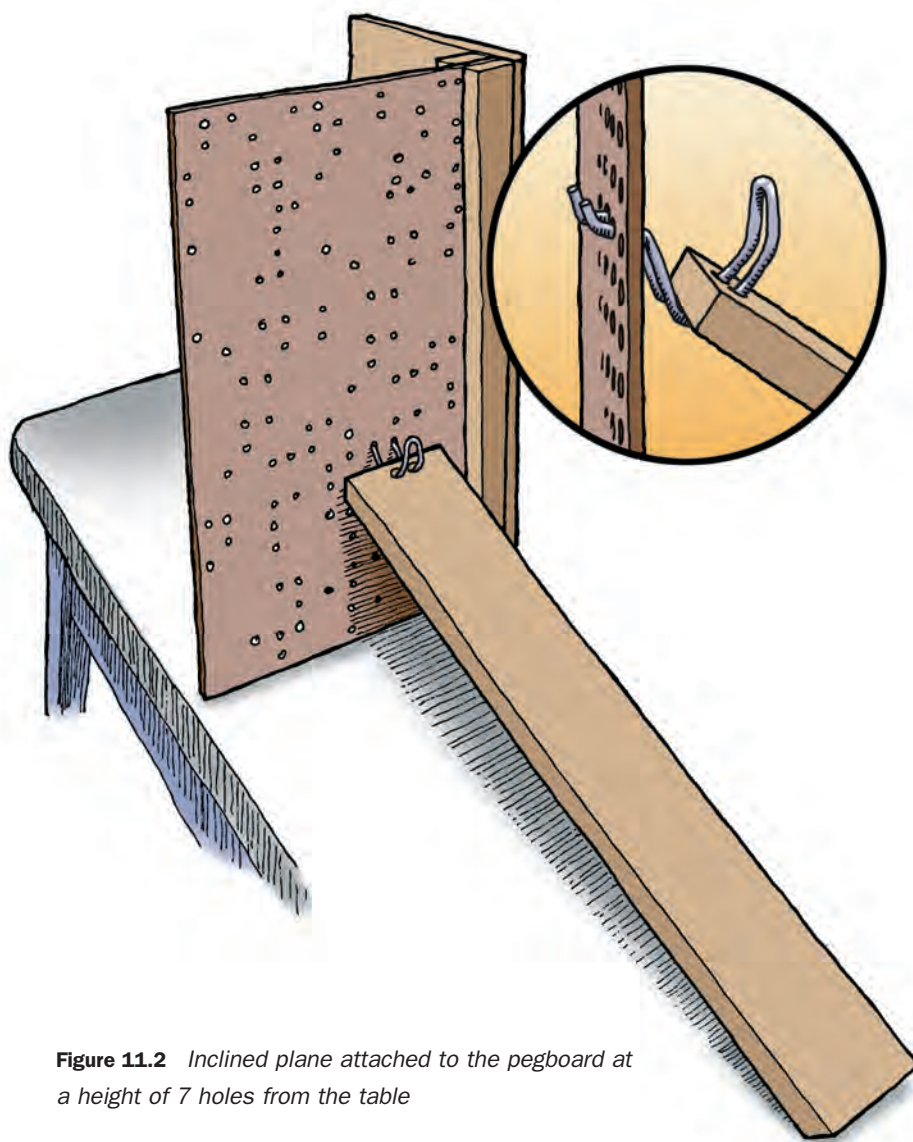

Figure 11.2 Inclined plane attached to the pegboard at a height of 7 holes from the table
6. Using the double loop hook, attach the inclined plane to the pegboard, as shown in Figure 11.2. Now place the cart on the inclined plane. Measure and record the force required to hold the cart on the plane. What creates the force on the cart on the inclined plane?
7. Suppose you pulled the cart up an inclined plane like the one shown in Figure 11.2. How do you think the effort force needed to pull the cart up the incline at a slow, steady speed would compare with the effort force needed to move the sled across the table? Explain your reasoning.